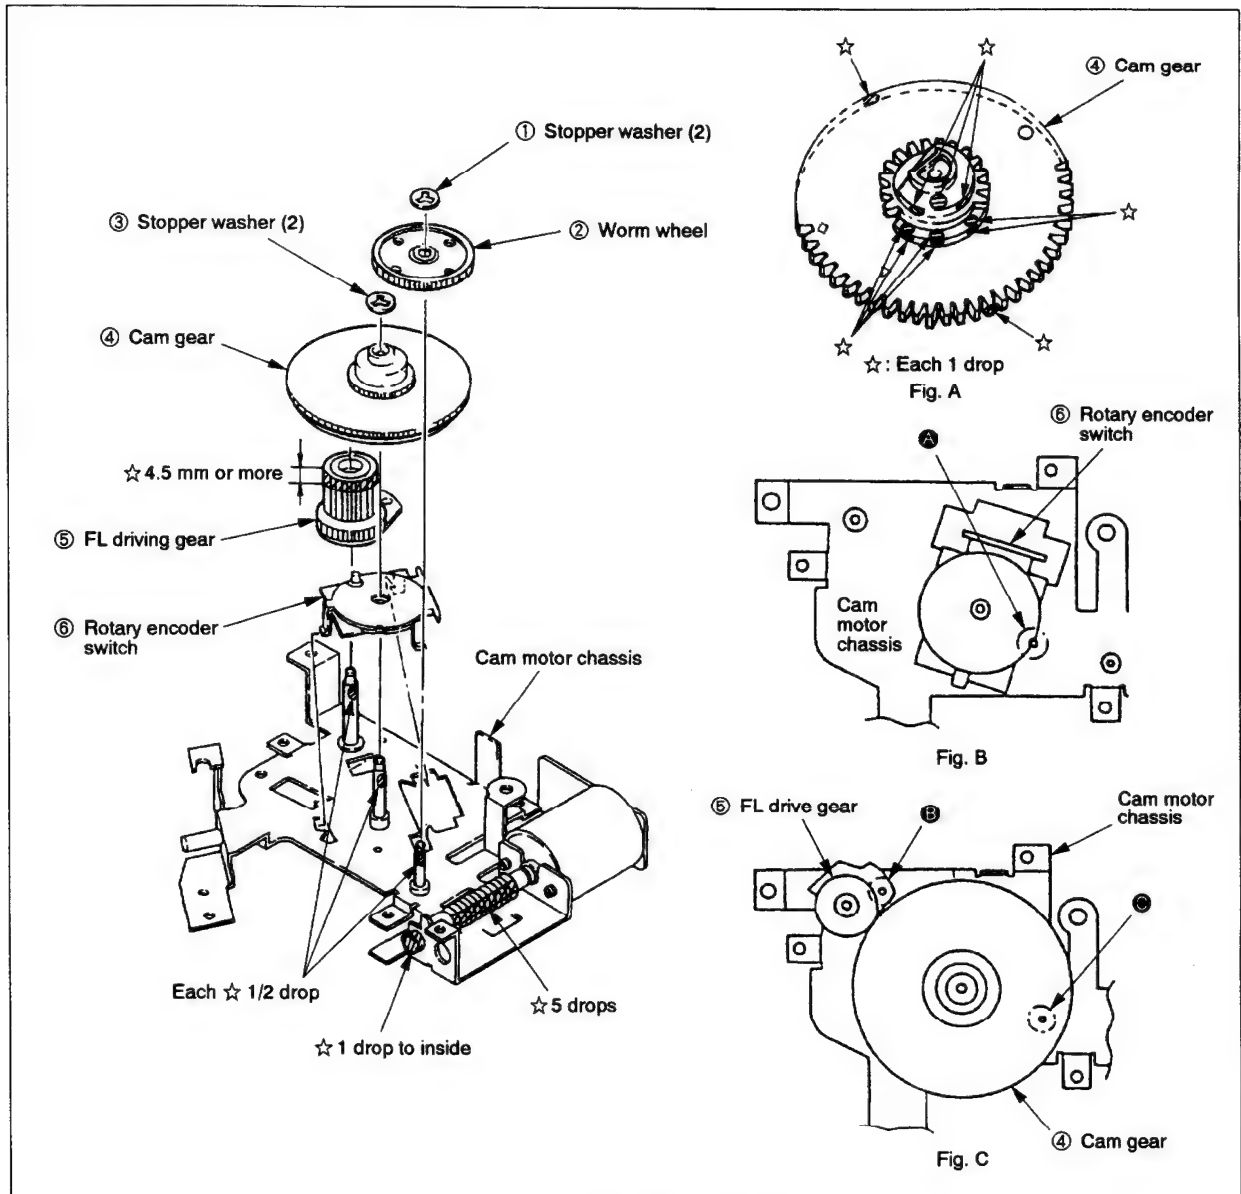

Fig. 3-19
3-17. ROTARY ENCODER SWITCH (Fig. 3-19)
- Apply FLOIL SG-055G (Jig Ref. No. J-12) to ☆ marked portions. (Fig. 3-19, A)
- Adjust the hole ① to the hole on cam motor chassis. (Fig. B)
- Adjust the holes ② and ③ to the hole on cam motor chassis. (Fig. C)